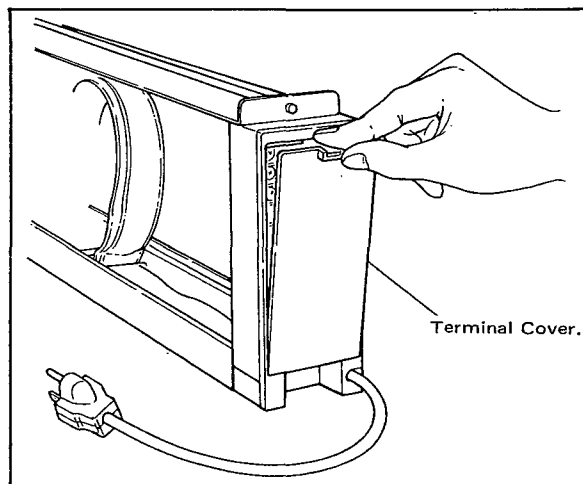

Figure 3-3. Removing and Remounting the Terminal Cover.
- (2) After completing wiring, mount the terminal cover. See Figure 3-3.